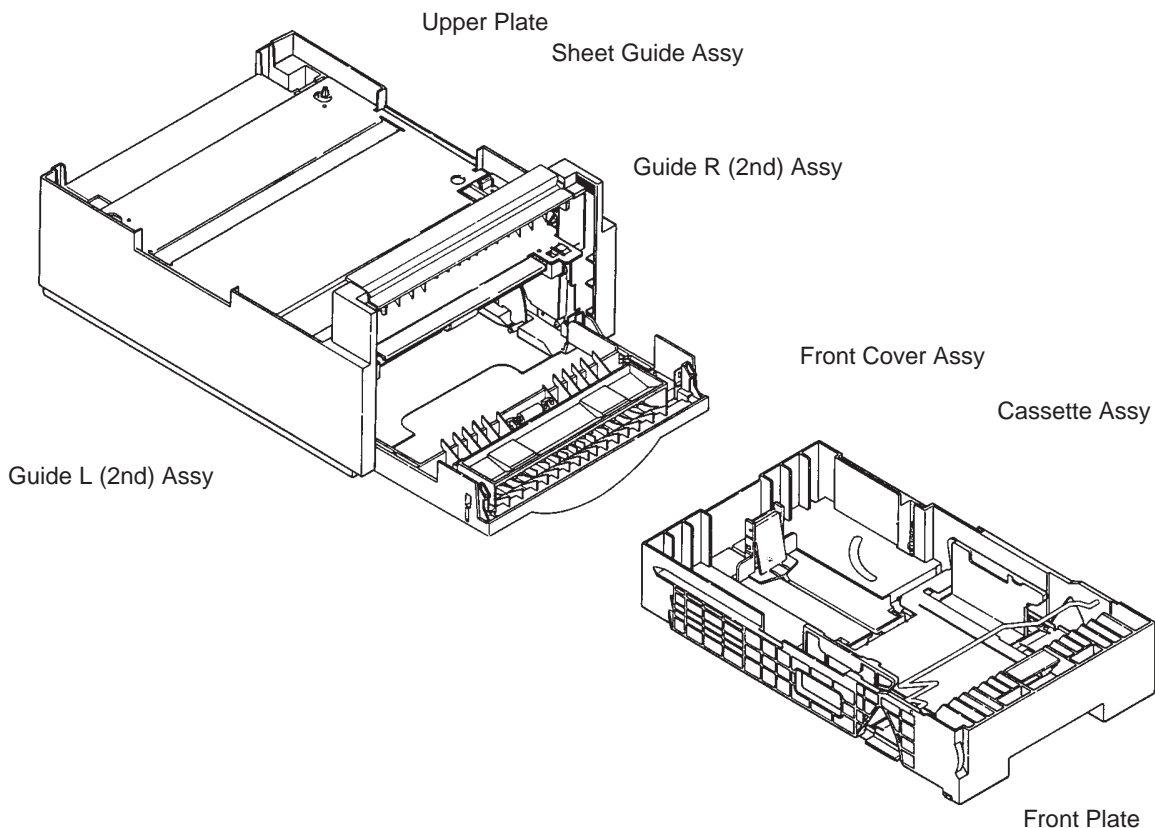

Fig. 1-1 External View and Component Names
1.2 External View and Component Names (Figure 1-1)